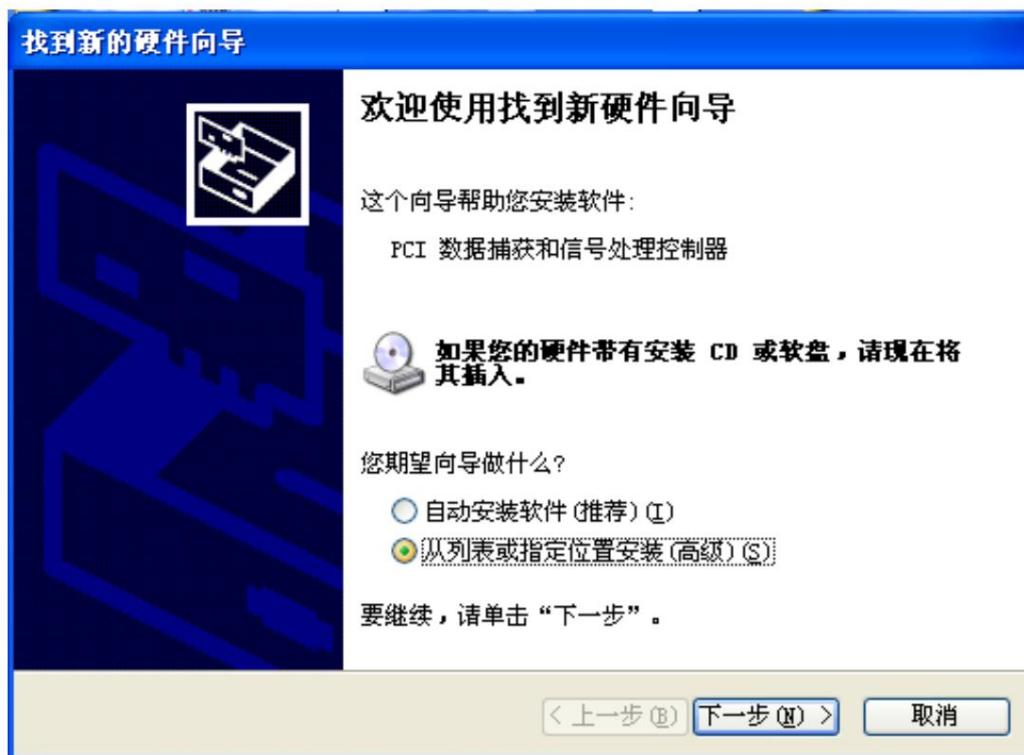

Figure 5-9 Select "Install from list or specified location"
3. When entering the Windows XP system, the new hardware installation wizard shown in Figure 5-9 will pop up, install the DMC5400